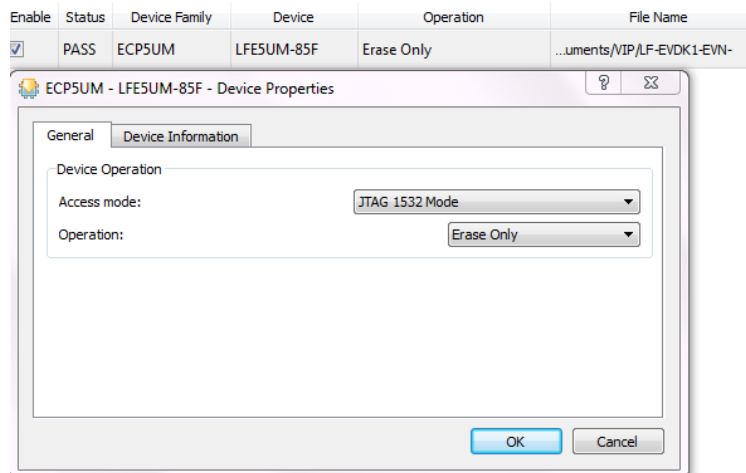

Figure 4.12. Diamond Programmer – Device Operation
5. Select **JTAG 1532 Mode** for **Access mode** and **Erase Only** for **Operation** as shown in Figure 4.12.